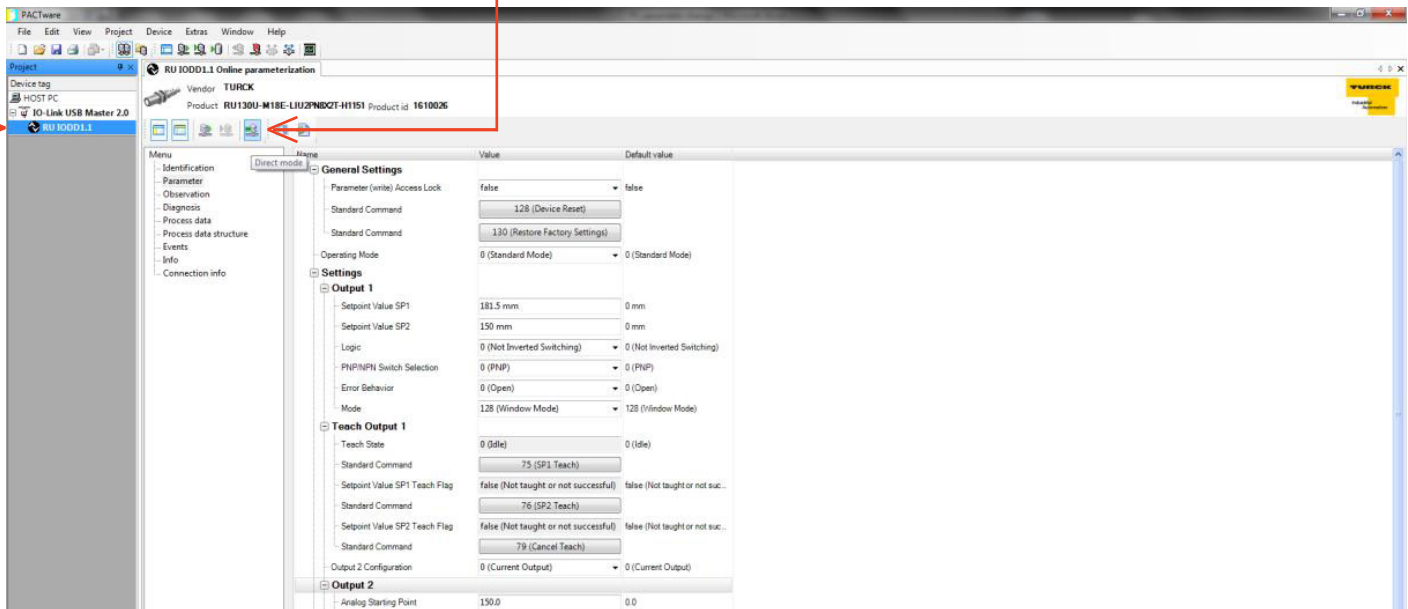

Figure 8.
11) If you click on the icon "Read from Device(Upload)" the parameters will be uploaded from the device as they are currently stored. (See Figure 8)